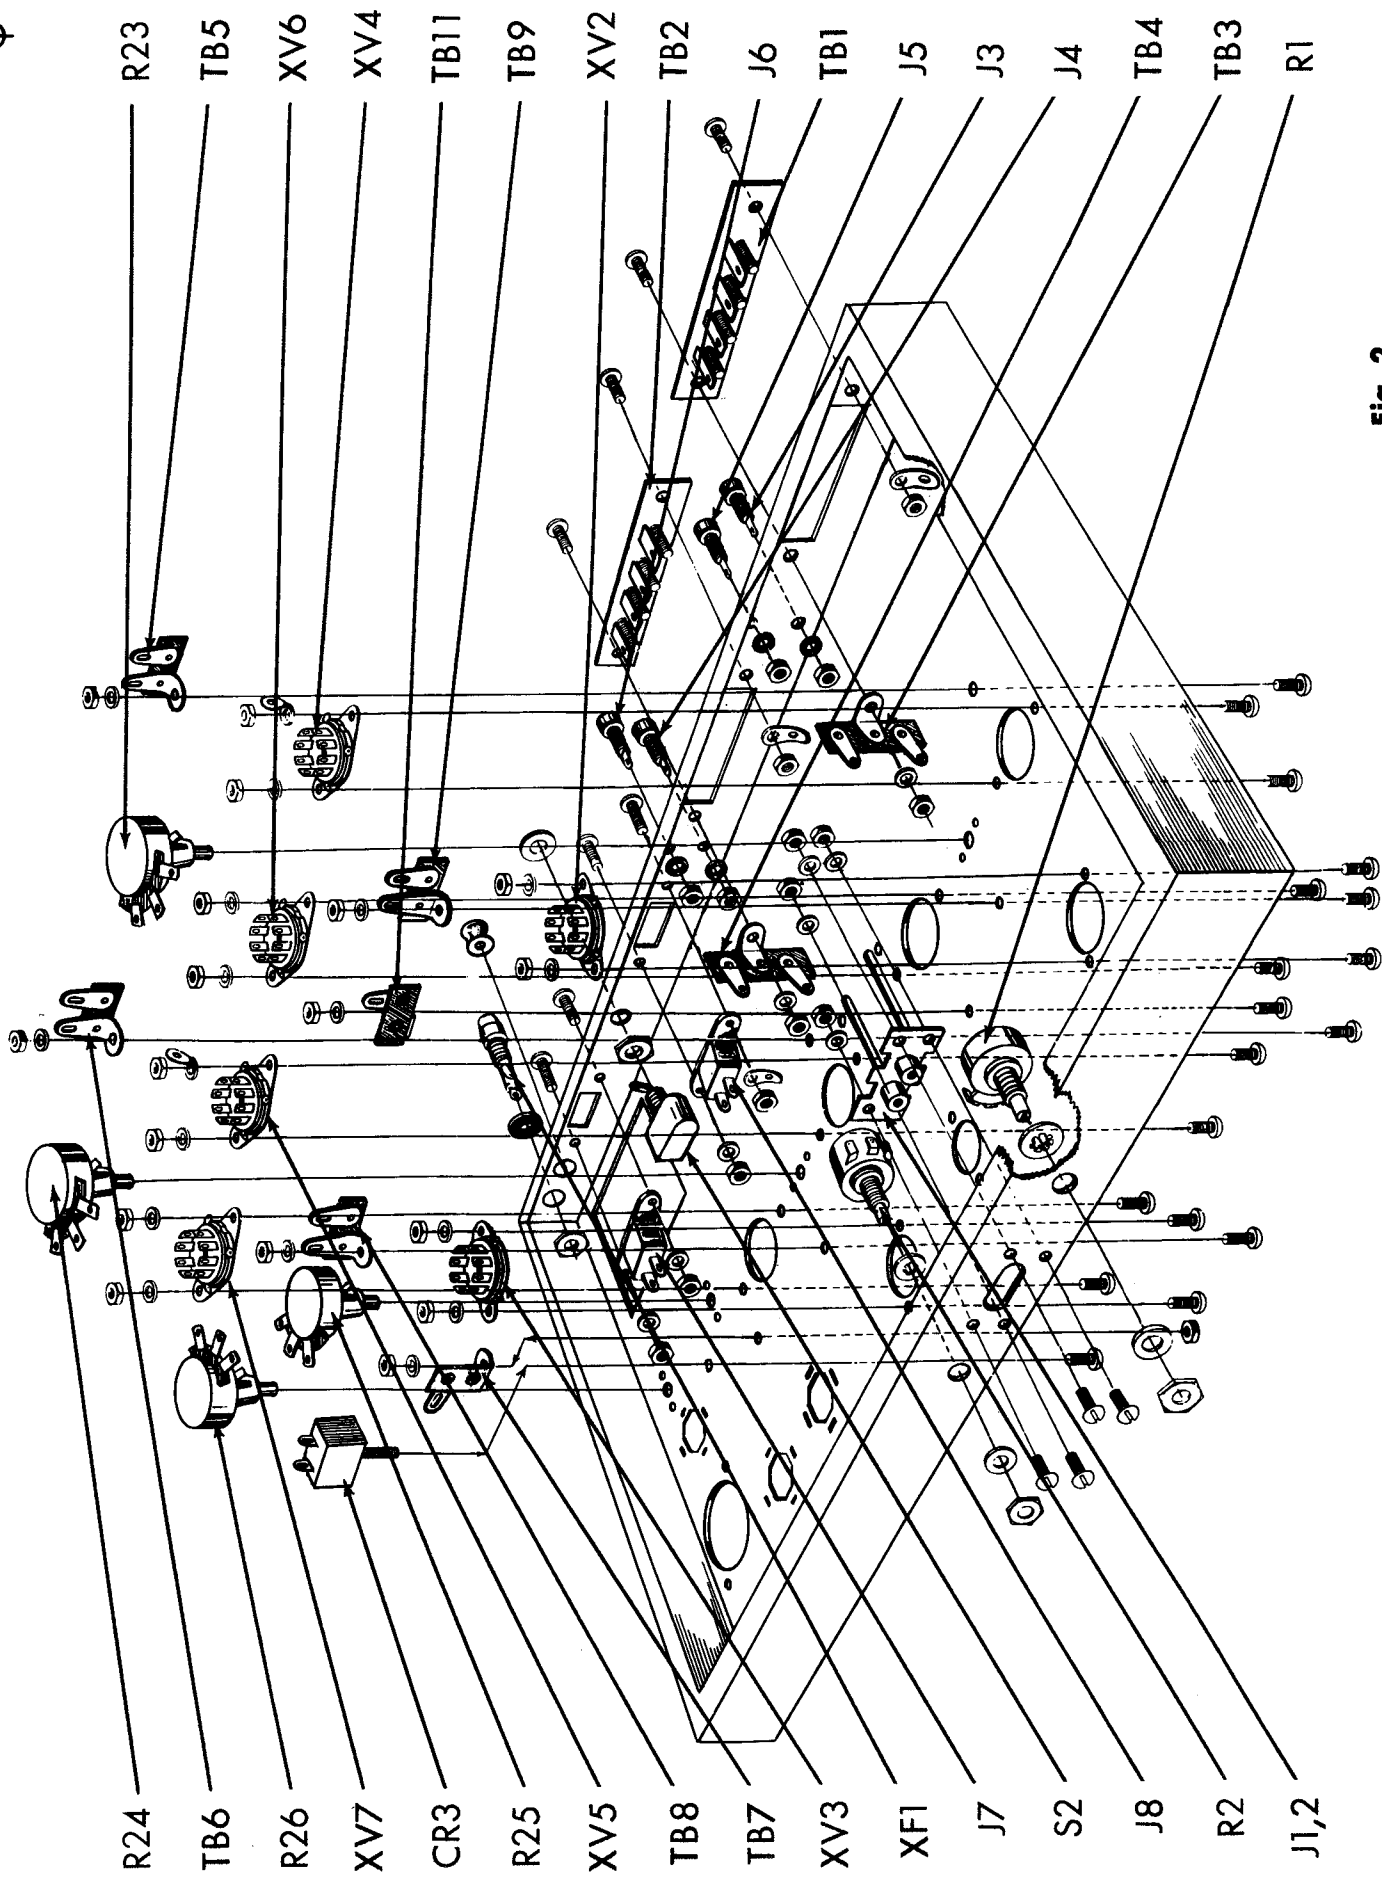

Fig. 2
- ( ) 1. Fig. 2. On the rear apron of the chassis, mount the four screw terminal boards, TB1 and TB2, as shown. Use two #6-32 screws and two #6-32 hex nuts on each. Under one of the hex nuts, used for mounting each terminal board, mount a #6 ground lug. Under each of the remaining hex nuts used for securing the terminal boards TB1 and TB2 to the chassis, mount a 2 post terminal strip and a #6 lockwasher. Mount terminal strip TB3 under the lockwasher and hex nut used for securing TB1 to the chassis and terminal strip TB4 under the hex nut and lockwasher used for securing TB2 to the chassis.
- ( ) 2. Fig. 2. Mount the two convenience outlets, J7 and J8, as shown. Use two #6-32 screws, two #6 lockwashers, and two #6-32 hex nuts on J7. Use two #6-32 screws, one #6 lockwasher, one #6 ground lug and two #6-32 hex nuts on J8.
- ( ) 3. Fig. 2. Mount a 15/32-32 hex nut on the toggle switch S2. Adjust the nut so that only 1/16" of the screw threads are visible on the outside of the chassis when S2 is mounted. Secure the switch with a 15/32-32 ring nut. Tighten in position so that switch will not rotate.
- ( ) 4. Fig. 2. Mount fuseholder XF1, as shown. Use a thin rubber washer outside the chassis. Use a 1/2"-32 hex nut so secure the fuseholder to the chassis. Do not tighten too much or the holder will crack.
- ( ) 5. Fig. 2. Mount the four meter pin jacks, J3, J4, J5 and J6 with the hardware supplied on the jacks. Remove the nut and the fibre washer from the threaded portion of each jack. Pass the threaded portion of each jack through their respective holes in the rear apron of the chassis. Secure each jack with its fibre washer and hex nut inside of the chassis. The small shoulder on the fibre washers should seat in the mounting holes. If the assembly is properly completed, each jack will be insulated from the chassis.
- ( ) 6. Fig. 2. Push a rubber grommet in the remaining hole in the rear apron of the chassis next to the fuseholder.
- ( ) 7. Fig. 2. Mount the four 1 post right with ground terminal strips, TB5, TB6, TB8 and TB9; the 1 post upright right terminal strip, TB7; and the 1 post left terminal strip, TB11, as shown. Note the orientation of each of these terminal strips in figure #3. Use one #6-32 screw, one #6 lockwasher and one #6-32 hex nut to secure each terminal strip to the chassis.
- ( ) 8. Fig. 2. Mount octal sockets XV2, XV3, XV4, XV5, XV6, and XV7 as shown. Note the orientation in figure #3. The number of each pin is indicated next to the pin on the bakelite portion of the socket. Use two #6-32 screws, two #6 lockwashers, and two #6-32 hex nuts to secure each socket to the chassis.
- ( ) 9. Fig. 2. Mount the dual input jack, J1, 2, as shown. Use four #4-40 screws, four #4 lockwashers, and four #4-40 hex nuts.
- ( ) 10. Fig. 2. Mount selenium rectifier CR3, as shown. Note the orientation (+terminal) in figure #3. Secure to the chassis with one #6 lockwasher and one #6-32 hex nut.
- ( ) 11. Fig. 2. Mount potentiometers, R1 and R2, as shown. Use one 3/8 lockwasher inside the chassis and one 3/8 flatwasher and a 3/8 hex nut outside the chassis to secure each potentiometer to the front apron of the chassis.
- ( ) 12. Fig. 2. Mount the two 10K pots, R25 and R26 in the holes near power transformer T1, as shown. Note the orientation in figure #3. Press each pot firmly towards the chassis until a click is heard and is held firmly to the chassis.
- ( ) 13. Fig. 2. Similar to the above, mount the two 50K pots, R23 and R24. Note the orientation and location in figure #3. Press each pot firmly towards the chassis until a click is heard and is held firmly to the chassis.